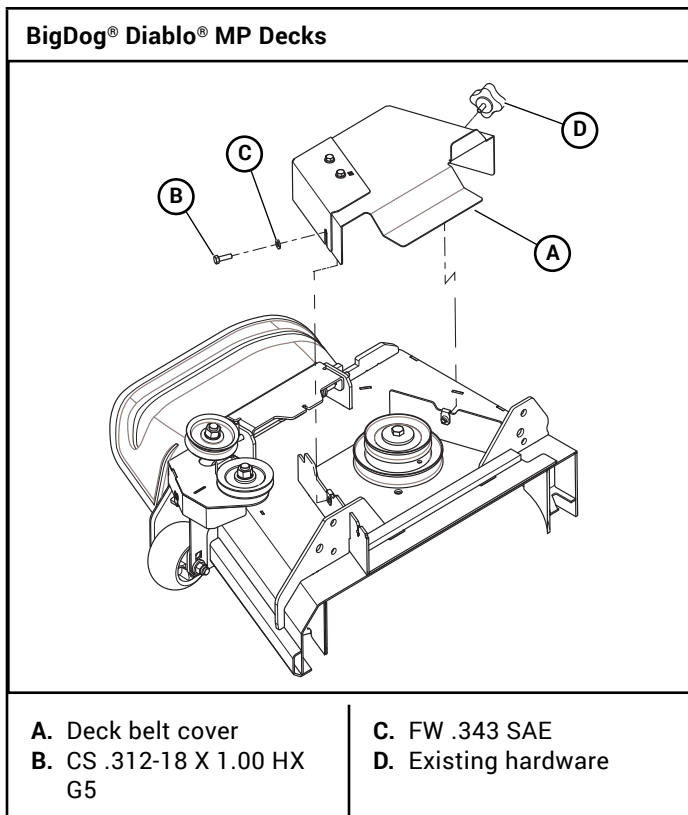
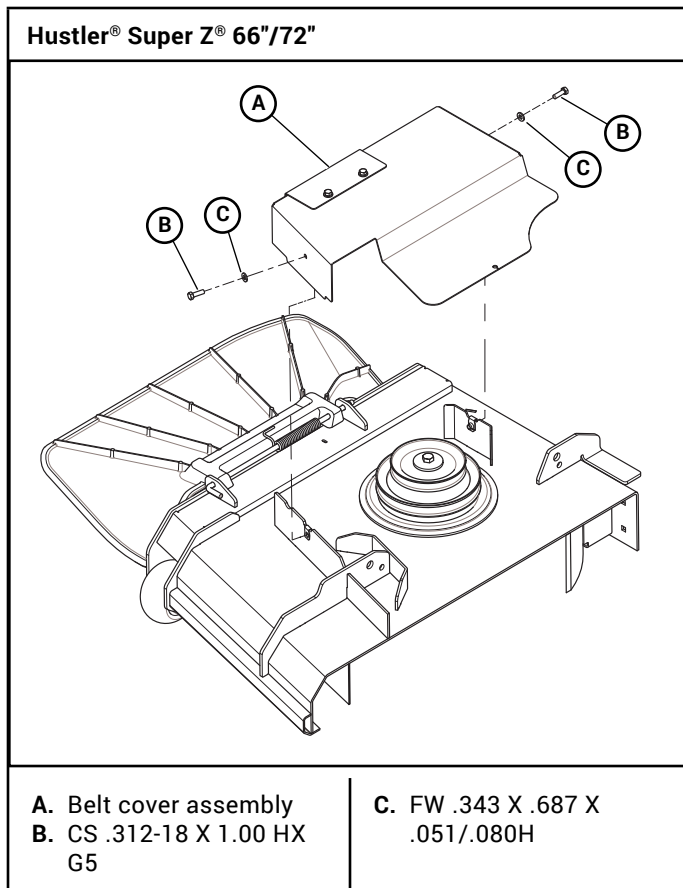
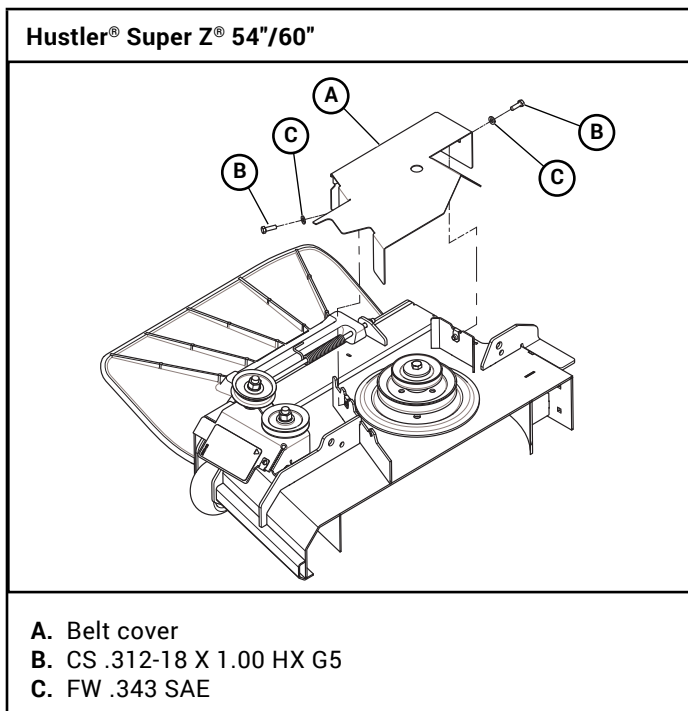

Figure 4-18
Figure 4-20
Figure 4-19
10. Attach the deck belt cover to the deck. Figure 4-18, Figure 4-19, Figure 4-20